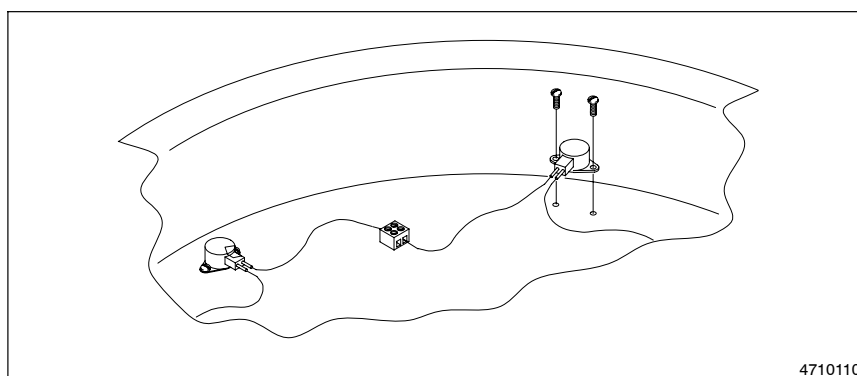

Fig. 7-11 Removing the Thermostat
7. See Figure 7-11. Remove the two screws that secure the thermostat to the platen. Remove and discard the thermostat.